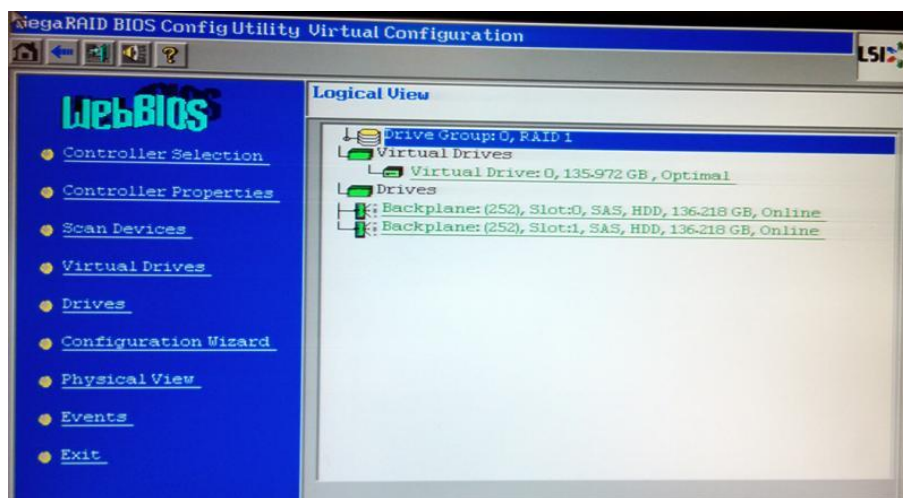

Figure 17: Correct Logical Drive Information
10. If the information in Figure 17 is shown on the screen, the configuration is correctly imported. The server will boot up properly, then.